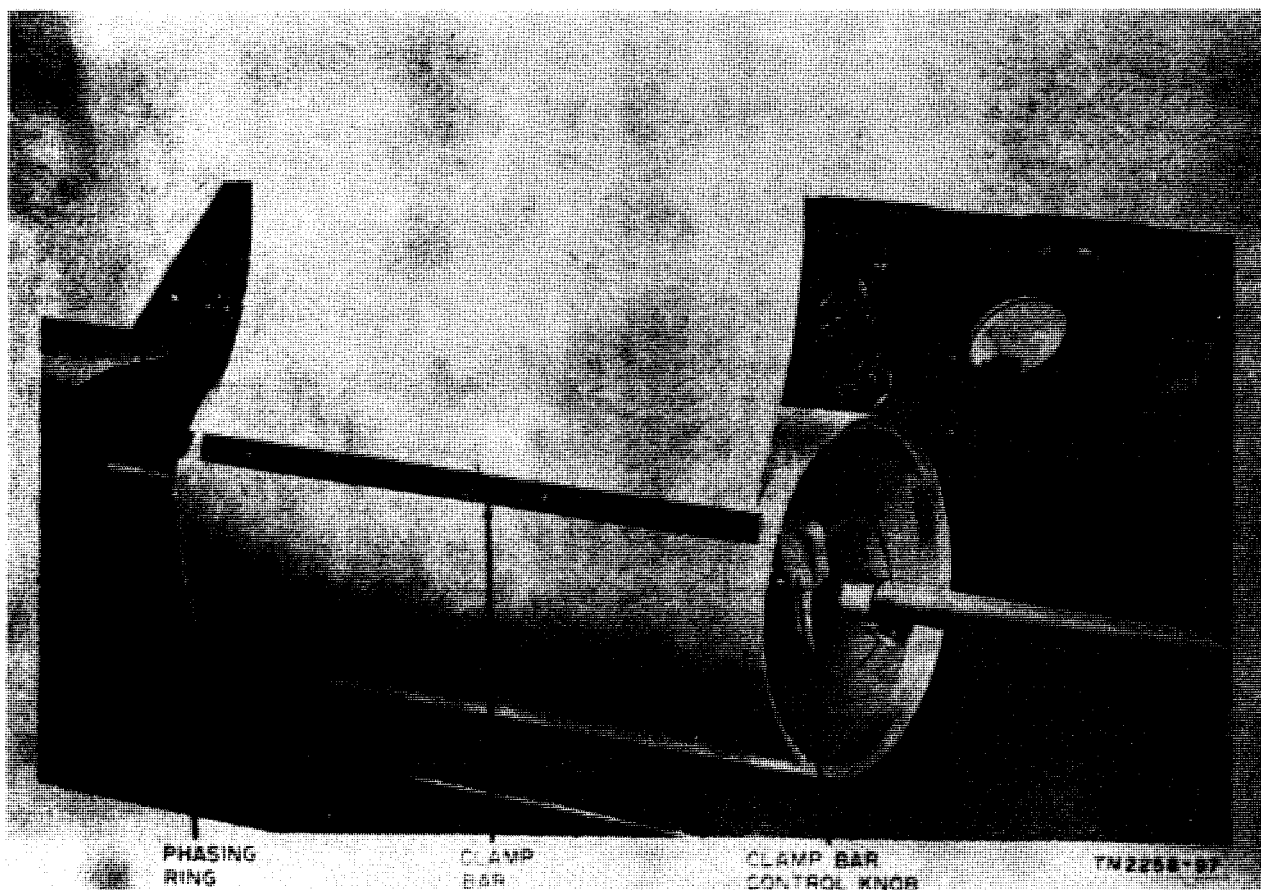

Figure 17. Loading drum with direct recording paper.
- (1) The clamp bar control knob (fig. 17) is located on the right side of the rotating drum. It is used to open and shut the clamps that hold copy to the drum and can be operated only when the motor is not running and the drum is not rotating. This knob has three positions:
- (1) Cut the copy to be transmitted to a size no larger than 12 by 18 ⁵/₈ inches. Keep the actual message for transmission to 12 x 17½ inches for both photographic and direct recording.
- (2) Fasten captions on the copy to be transmitted with scotch tape or write them on the copy with either ink or pencil.
- (3) Throw the power ON-OFF switch of the transceiver to the ON position. Turn the selector switch to the SET RANGE position. Wait for the high-pitched 1,800-cycle tone. (There is no audible tone when the selector switch is in STANDBY position and the STANDBY-MON-TALK switch is in the STANDBY position.) Normally, a 10-minute warm-up period should be allowed before transmitting. The dust removal blower ON-OFF switch should be in OFF position when the equipment is in use as a transmitter.
- (4) Press backward on the engaging lever, on the left end of the drum mechanism, to disengage the drum from the lead screw. Push the drum to the right-hand end of the lead screw. Turn the drum so the clamping bar is on top.
b. Placing Copy on Drum (fig. 17).
- (1) Raise one edge of the clamp bar by turning the knob on the right end of the drum to its clockwise position. Place the lower edge of the copy, face up, under the rear edge of the clamp bar. Turn the knob to its counterclockwise position to set the clamp and open its other edge. Revolve the drum, wrapping the copy
- (1) Move the drum so that the spot of light shines directly on the raised phasing ring at the left end of the drum (fig. 17). The STANDBY-MON-TALK switch may be in the MON or STANDBY position, and the selector switch is at SET RANGE. Operate the START switch and hold it engaged until the motor starts and the drum picks up speed to slightly more than 60 rpm, which is the normal operating speed. (Do not race the motor; 2 to 4 revolutions of the drum should be sufficient.) Release the START switch. The drum will slow down to a synchronous speed of 60 rpm as indicated by the 1,800-cycle audible tone from the motor laminations.
b. Receiving Copy. Adjust the GAIN control and phase the transceiver as outlined in paragraph 28 for direct recording. In this position, the selector switch is on RECORD PHOTO, and the photographic paper or film may be ruined if the light of the recorder lamp falls on the paper. Care must be taken to perform these operations with the drum at the far right side of the lead screw, so that the light from the recorder lamp falls only on the aluminum drum (fig. 17). When the signal starts, leave the selector switch in the RECORD PHOTO position. Move the drum to the left approximately $\frac{1}{4}$ inch until the beam from the recorder lamp shines on the extreme left-hand edge of the photographic paper. Engage the drum feed mechanism. Turn off the safelight. Turn it on occasionally to permit checking of the transceiver operation.